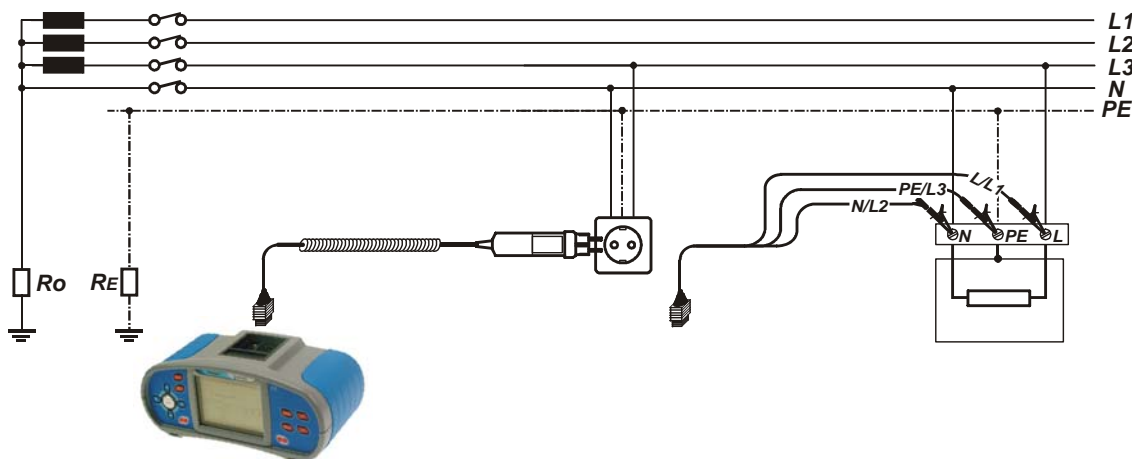

Figure G.9: Connection of plug cable and universal test cable
- ❑ **Connect** test leads to the tested object (see figure G.9).